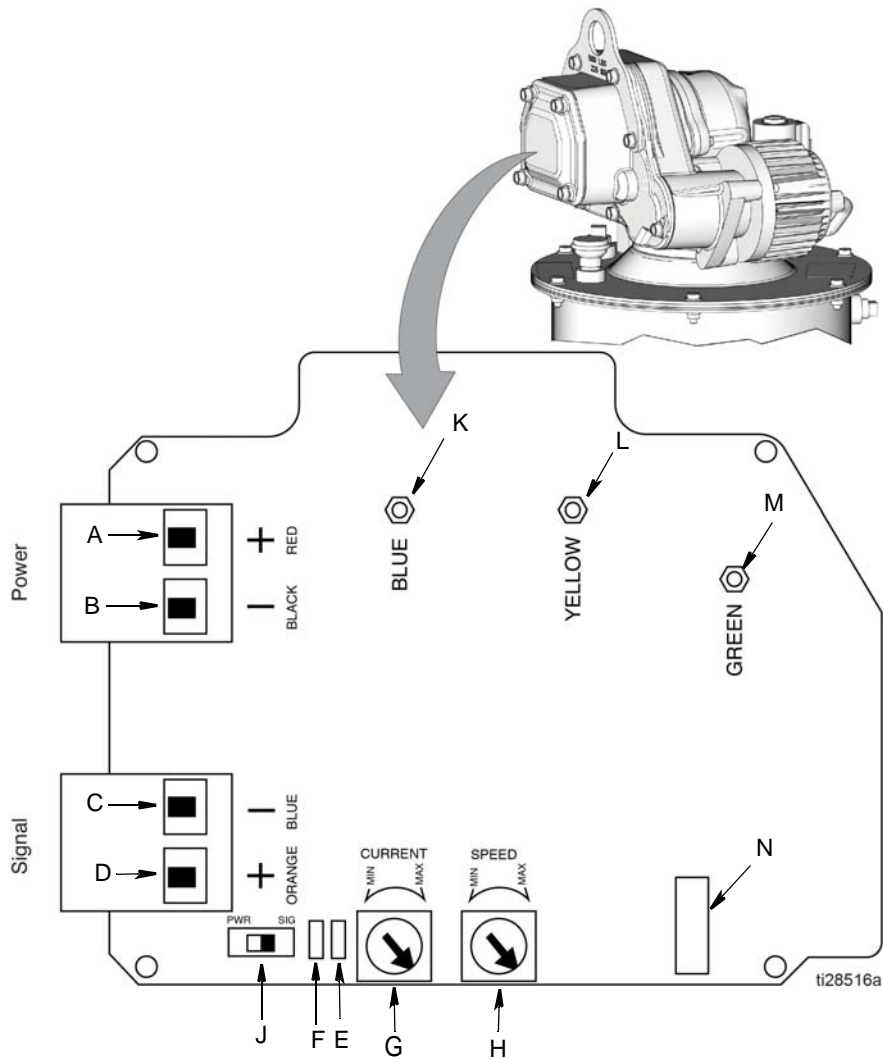

FIG. 7
- When the pump control switch (J, FIG. 7, page 8) is set in signal mode, the motor/pump runs when voltage is applied to the signal and power connectors.
- When the pump control switch (J, FIG. 7, page 8) is set in power mode, the motor/pump runs when voltage is applied to the power connectors. The signal connectors do not require voltage.